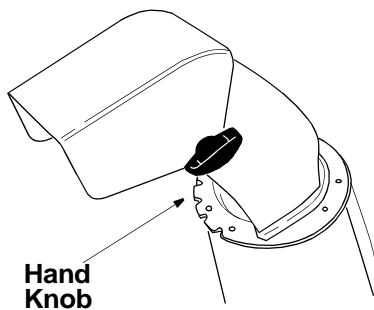

Figure 24
1. To adjust the chute, loosen the hand knob. See Figure 24.